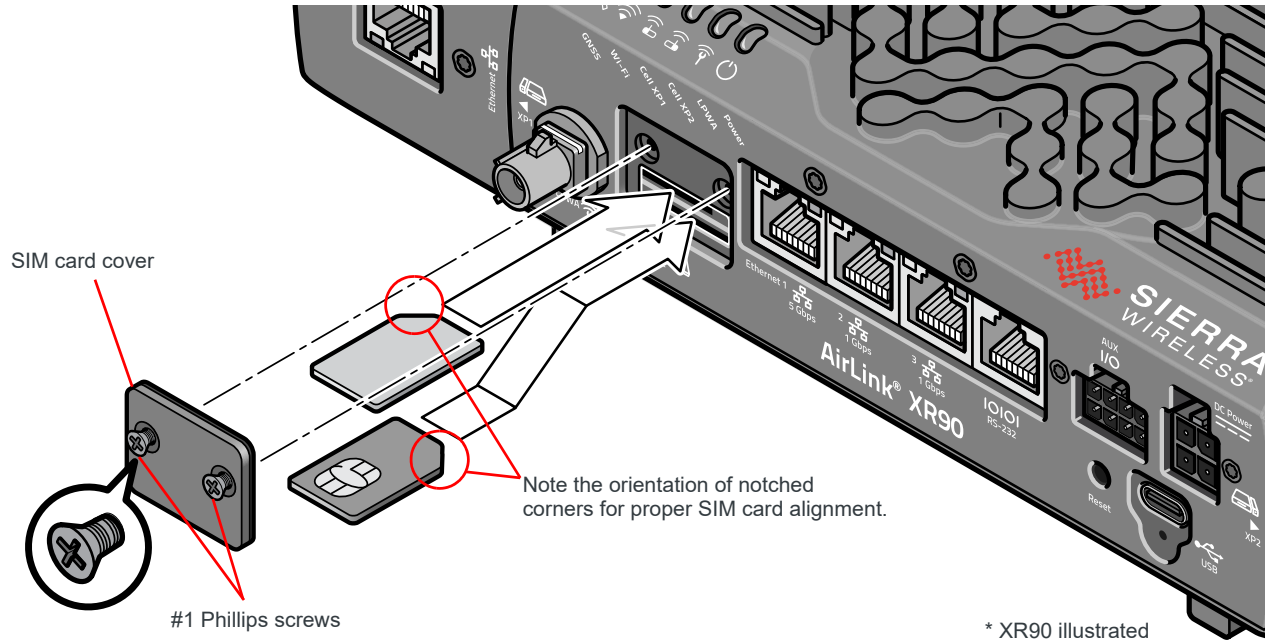

Figure 2-3: Installing the SIM Cards
The XR router has two mini-SIM (2FF) card slots located behind a removable plate on the front of the XR router as shown in Figure 2-3 on page 21.
3. Orient the SIM card(s), as shown in Figure 2-3. (Upper SIM—Gold contacts face-down; Lower SIM—Gold contacts face-up)